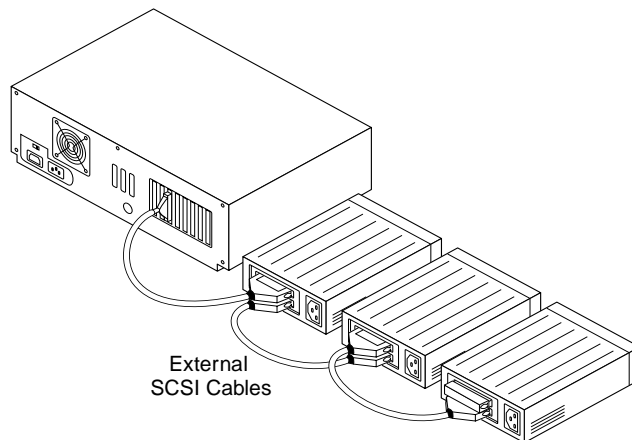

Figure 2-10. Connecting Multiple External SCSI Devices
You can daisy-chain up to seven external SCSI devices to Channel B of the AHA-3940U, and up to 15 external SCSI devices to Channel B of the AHA-3940UW, as shown in Figures 2-10 and 2-13, provided the allowable cable lengths do not exceed those listed in *Maximum Cable Lengths* on page 2-5.
- 3 To connect other external SCSI devices, daisy chain each device to the previous device until all external SCSI devices have been connected, as shown in Figure 2-10.